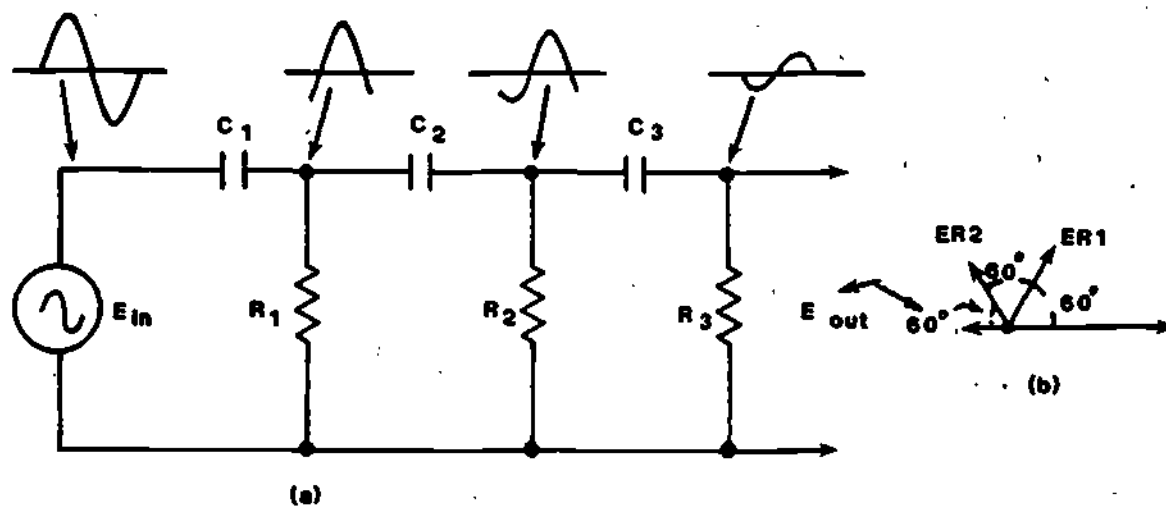

Figure 4
6. Figure 4 shows a three-section RC phase-shift network.
Phase shift waveforms are shown immediately above each RC network in Figure 4. Amplitude reduction is also indicated by the varying size of the waveform. Remember, output amplitude decreases with each RC network. In this example, the amplitude of the output at R3 is considerably less than the signal initially applied to the circuit at E_{in} . Although the vectors and waveforms are not drawn exactly to scale, they do illustrate the concept of amplitude reduction and phase shift.